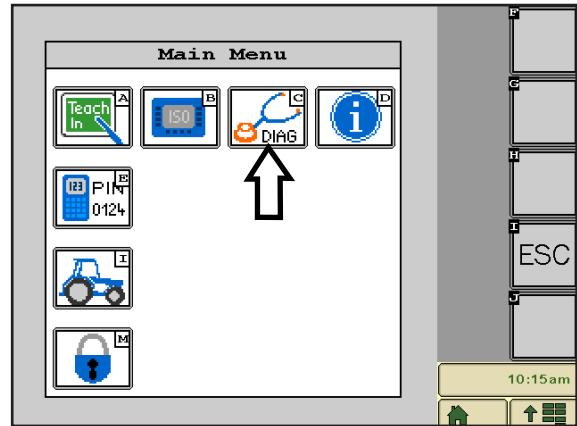

Fig. 19: Accessing diagnostics
Tap the diagnostics symbol (C) in the main menu (see Fig. 19) to open the diagnostics menu.